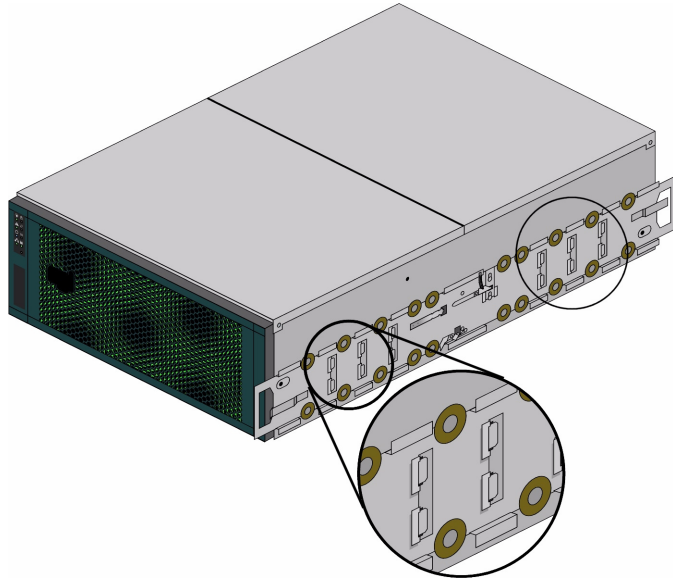

Figure 1-19 Support Tabs
2. Locate the six support tabs along the side of the chassis (Figure 1-19).